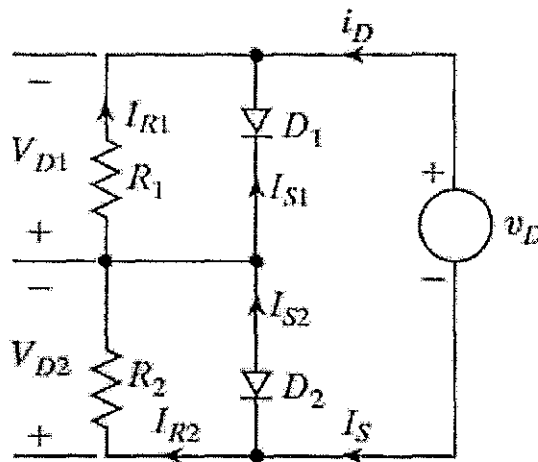

Figure 1.1
- (ii) Two diodes are connected in series as in Figure 1.1 to share a total voltage of $V_D = 5kV$. The reverse leakage current of the diode is $I_{s1} = 30mA$ and $I_{s2} = 35mA$. Find the diode blocking voltage if the voltage sharing resistor are equal $R_1 = R_2 = 100k\Omega$.